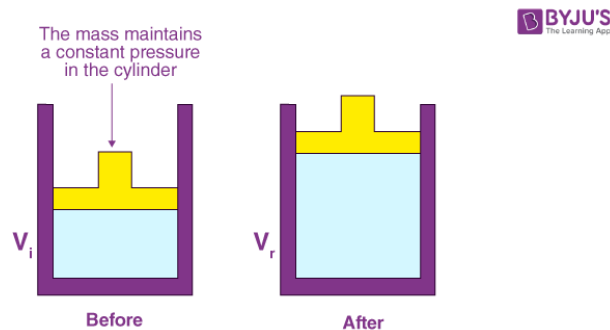

Figure 1: An example of an isobaric system. The gas pushes the mass and piston (surface area A) upward when heated.
Isobaric processes are processes that occur at constant pressure. Consider the piston in Figure 1. Heating the gas causes it to expand from V_i to V_f , doing work W by lifting the piston and mass through displacement \vec{s} . Because $W = Fs = (PA)s$, for all isobaric processes: